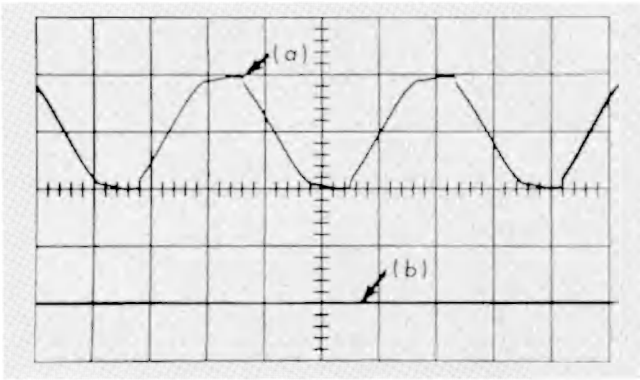

Fig. 2-5. Measuring a voltage with respect to some reference.
To measure the dc level at some point on a signal with respect to ground (see Fig. 2-5), proceed as follows:
4. Touch the oscilloscope probe tip to a ground point, and with the appropriate POSITION control position the trace so that it lies along one of the horizontal lines of the graticule, such as **b** in Fig. 2-5. This line will be used as a ground reference line; its position in any given case will depend upon the polarity and amplitude of the input signal or dc level to be measured. Do not adjust the POSITION control after the reference line has been established.
6. Measure the distance, in centimeters, from the ground reference line established in step 4 to the point at which the dc voltage level is desired, such as between **a** and **b** in Fig. 2-5.